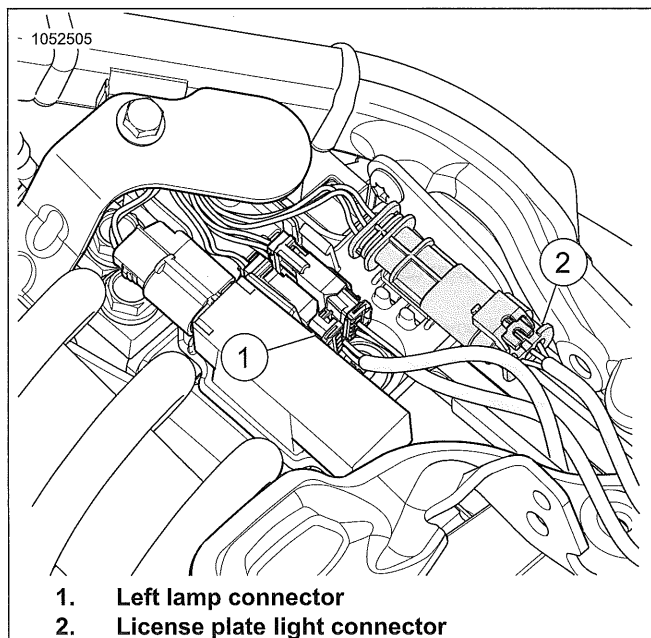
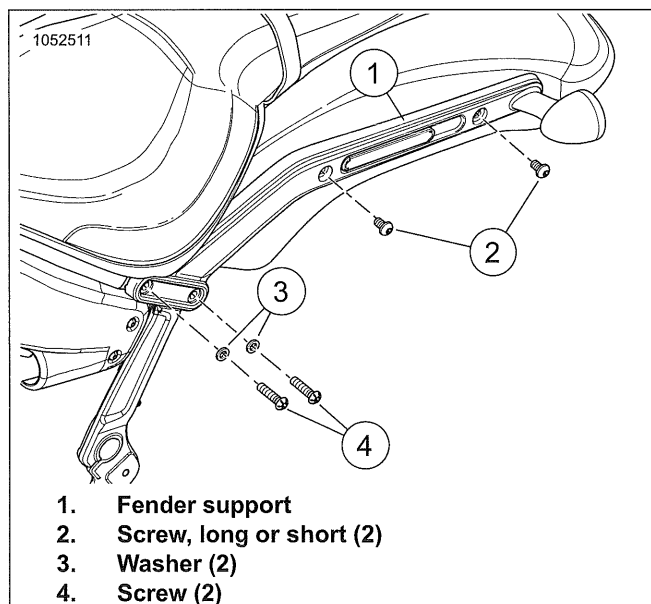
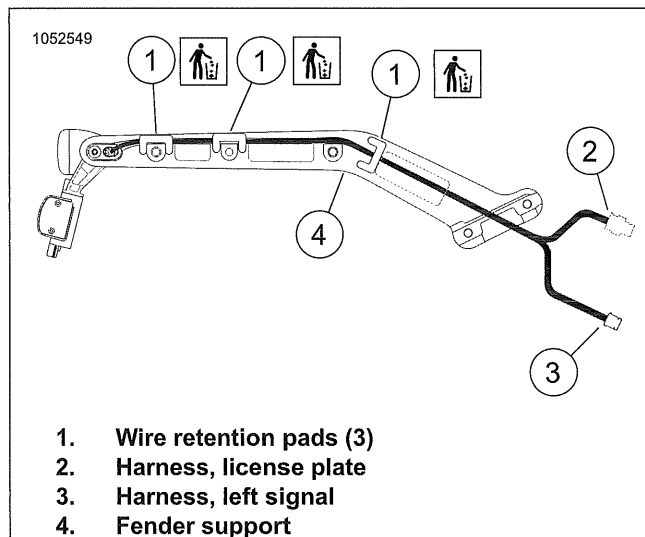

Figure 7-107. License Plate Lamp Connector
Figure 7-108. Right Fender Support
Figure 7-109. Left Fender Support
1. See Figure 7-107. Disconnect connectors.
- a. **License Plate:** Disconnect connector (2).
- b. **Left Signal:** Disconnect connectors (1).
2. See Figure 7-108. Remove left fender support.
- a. Remove screws (2).
- b. Remove screws (4) and washers (3).
- c. Remove fender support (1).
3. See Figure 7-109. Remove harness.
- a. Discard wire retention pads (1).
- b. Remove harness (2).
4. See Figure 7-107. Disconnect pins from connector (2). See electrical diagnostic manual.
2. See Figure 7-107. Connect pins to connector (2). See electrical diagnostic manual.
3. See Figure 7-109. Install harness.
- a. Route harness (2) through fender support (4).
- b. Install **new** wire retention pads (1).
4. See Figure 7-108. Install fender support.
- a. Install fender support (1), washers (3) and screws (4). Tighten.
5. See Figure 7-107. Connect connectors.